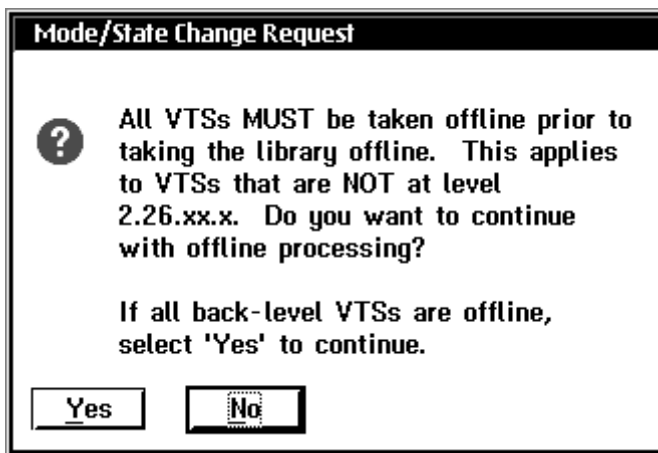

Figure 59. Mode/State Change Request Window — VTS
- If VTSs are configured, the message shown in Figure 59 on page 125 is displayed, alerting you to do one of the following actions: